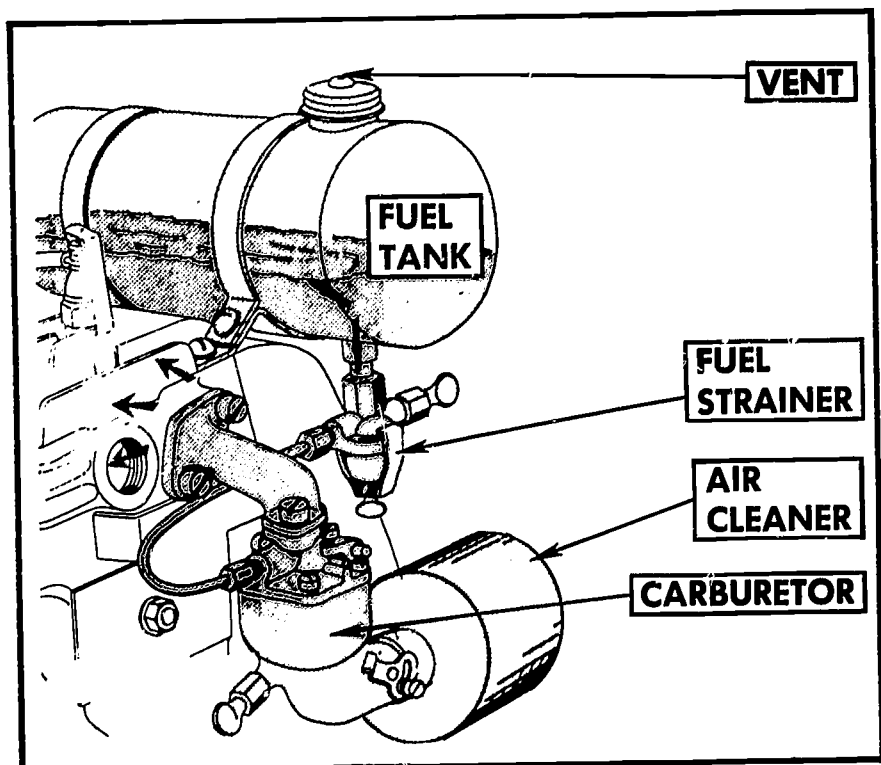

FIGURE 126. A gravity-feed fuel system. Fuel flows by gravity — its own weight — to the carburetor.
There are *three types of fuel systems* used on small engines: (1) **gravity-feed** (Figure 126), (2) **pressure-feed** (Figure 127), and (3) **suction-feed** (Figure 128).
The **gravity-feed fuel system** has the fuel tank mounted above the carburetor, and fuel flows by gravity to the carburetor (Figure 126).